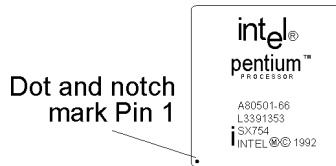

Figure 2-2 The markings on top of a CPU
1. Locate a small dot marked on the top surface of the CPU close to one if it's corners. The same corner will also be cut off, leaving a noticeable notch in the CPU's corner. These markings indicate Pin 1 of the CPU. See Figure 2-2.